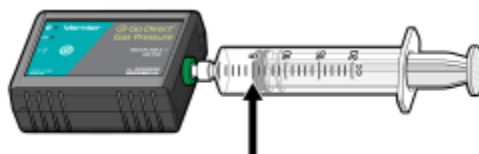

Figure 2
11. Move the piston so the front edge of the inside black ring (see Figure 2) is positioned at the 5.0 mL line on the syringe. Hold the piston firmly in this position until the pressure value displayed on the screen stabilizes.